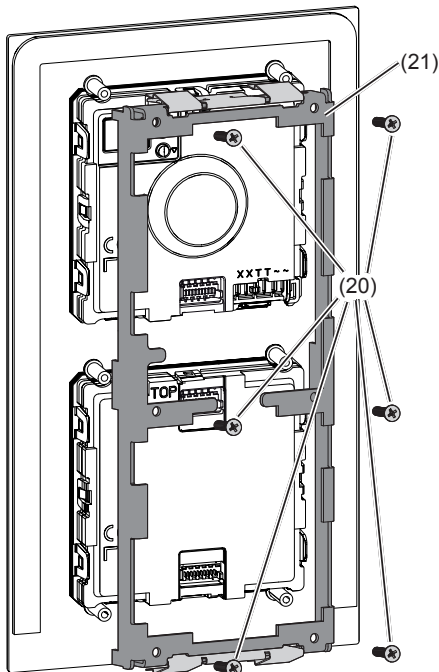

Figure 16: Dismantling module mounting
- Pull off connection terminal block (12) on the audio insert.
- Loosen screws (20) of the module mounting at the back (21) using a screwdriver and remove the module mounting (Figure 16).